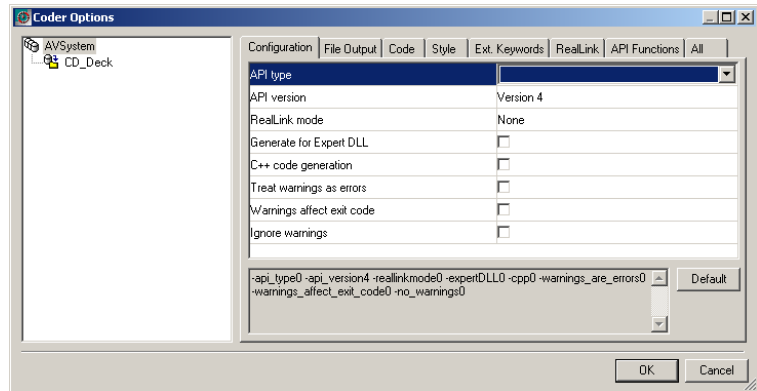

Figure 164: Navigator, Coder Options dialog box, Configuration tab
- 2 In the workspace browser (workspace view), select the visualSTATE Project for which to enable RealLink support. Open the pop-up menu and choose Project>Options>Code generation. The Coder Options dialog box is displayed. See *Figure 164*, page 208.